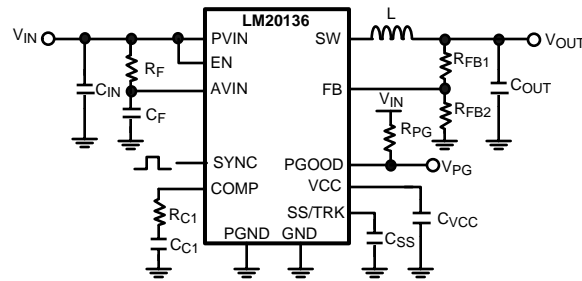

Figure 30. Typical Application Circuit
The LM20136 switching regulator features all of the functions necessary to implement an efficient low voltage buck regulator using a minimum number of external components. This easy to use regulator features two integrated switches and is capable of supplying up to 6A of continuous output current. The regulator utilizes peak current mode control with nonlinear slope compensation to optimize stability and transient response over the entire output voltage range. Peak current mode control also provides inherent line feed-forward, cycle-by-cycle current limiting and easy loop compensation. The internal oscillator can synchronize up to 1.5 MHz minimizing the inductor size while still achieving efficiencies up to 96%. The precision internal voltage reference allows the output to be set as low as 0.8V. Fault protection features include: current limiting, thermal shutdown, over voltage protection, and shutdown capability. The device is available in the HTSSOP package featuring an exposed pad to aid thermal dissipation. The LM20136 can be used in numerous applications to efficiently step-down from a 5V or 3.3V bus. The typical application circuit for the LM20136 is shown in Figure 30 in the design guide.
This section walks the designer through the steps necessary to select the external components to build a fully functional power supply. As with any DC-DC converter numerous trade-offs are possible to optimize the design for efficiency, size, or performance. These will be taken into account and highlighted throughout this discussion. To facilitate component selection discussions the circuit shown in Figure 30 below may be used as a reference. Unless otherwise indicated all formulas assume units of Amps (A) for current, Farads (F) for capacitance, Henries (H) for inductance and Volts (V) for voltage.
To prevent high frequency noise spikes from disturbing the sensitive analog circuitry connected to the AVIN and AGND pins, a high frequency RC filter is required between PVIN and AVIN. These components are shown in Figure 30 as C_F and R_F . The required value for R_F is 1Ω . C_F must be used. Recommended value of C_F is $1.0\ \mu\text{F}$. The filter capacitor, C_F should be placed as close to the IC as possible with a direct connection from AVIN to AGND. A good quality X5R or X7R ceramic capacitor should be used for C_F .